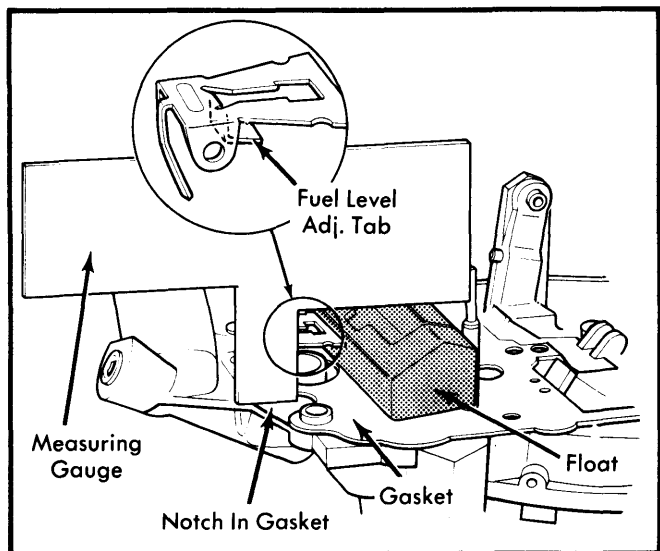

Fig. 2 Adjusting Float Level
1) With upper body and gasket removed, turn upper body assembly upside down. See Fig. 2.
2) Construct a gauge (as shown in Fig. 2.) to specified float level setting. Using gauge, measure distance from cast surface of upper body to bottom of float.